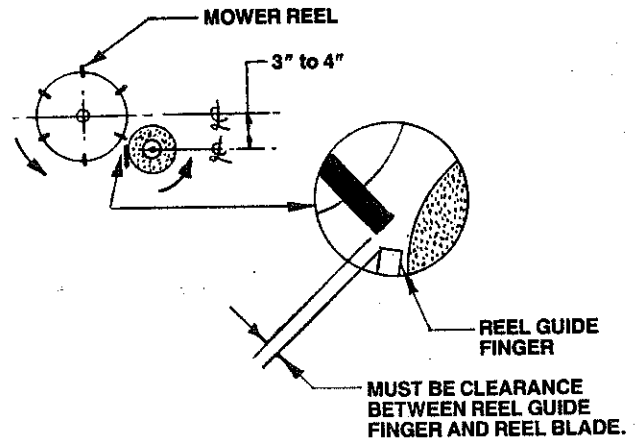

FIG. 83
- B. There are three (3) hand knobs for locking the grinding wheel vertically. Two on the base for the adjusting arm locks and one for grinding wheel vertical height adjustment locking screw.
- C. Position the height of the grinding wheel center so that it is 3 to 4" below the reel center. This will make sure the reel guide finger will clear the reel (See FIG. 83)